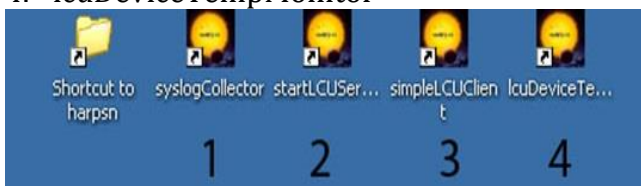

Figure 6 - FEU desktop screenshot
- b) Start the control software by clicking the icons corresponding to the control software in the following order (Figure 6):